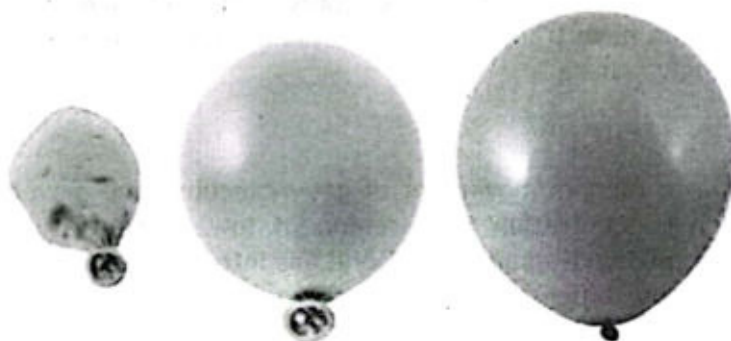

Fig. 7.13: Effusion of gas from balloon with passage of time
- Effusion from an inflated balloon. Blow a balloon to its full with no leak. Put it for some time like a couple of hours. You would feel that the balloon is not as inflated as it was before two hours. This is due to the fact that some air escaped out of the balloon due to effusion, as shown in figure 7.13.